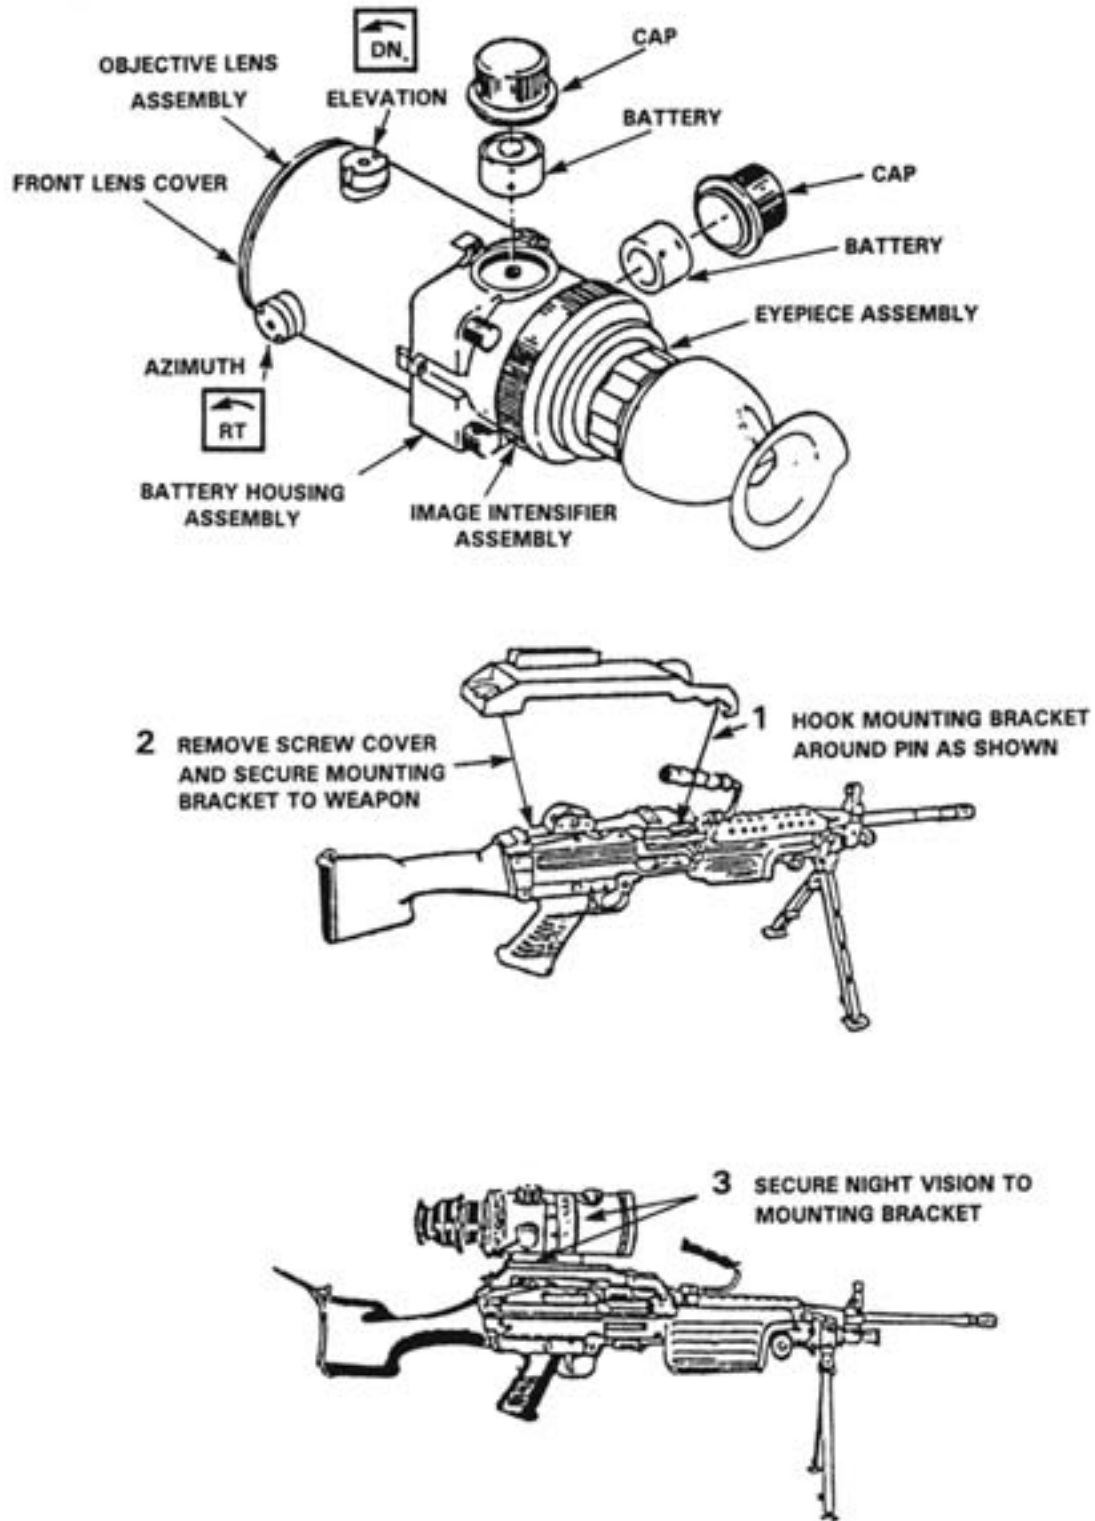

Figure 2-31. Mounting the Bracket and the Device.
- Turn the mounting knob clockwise until the AN/PVS-4 is tight. See figure 2-31.